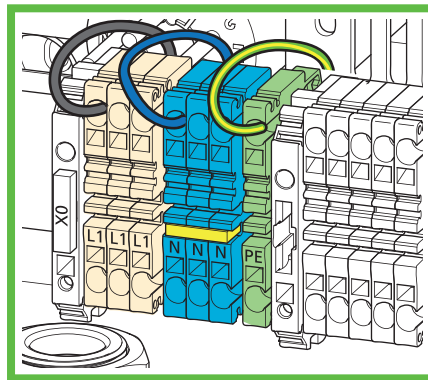

Figure 14: 230 V connection
- ▶ As an alternative, the supply line can also be inserted from the rear side. Open the M32 knock-out on the rear side of the housing and guide the line in to the housing using the M32 stepped nipple enclosed with the accessories. Disassemble the M25 cable gland on the bottom and seal the opening using the sealing plug enclosed with the accessories. Connect the electrical supply line (Abb. 14). The bicycle charging station offers an optional loop option for 3-phase supply lines. There are additional terminals present for applying 3-phases in the connecting area. The station itself may only be operated 1-phase with 230 V.